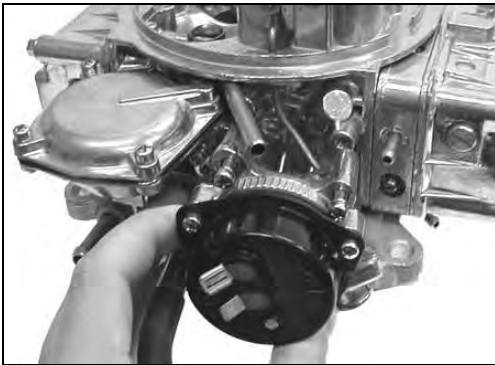

Figure 11
1. Remove the choke cap (electric choke), choke fresh air hose (electric choke), and choke housing (manual and electric choke) to gain access to the third screw retaining the vacuum diaphragm to the main body (Figure 11).